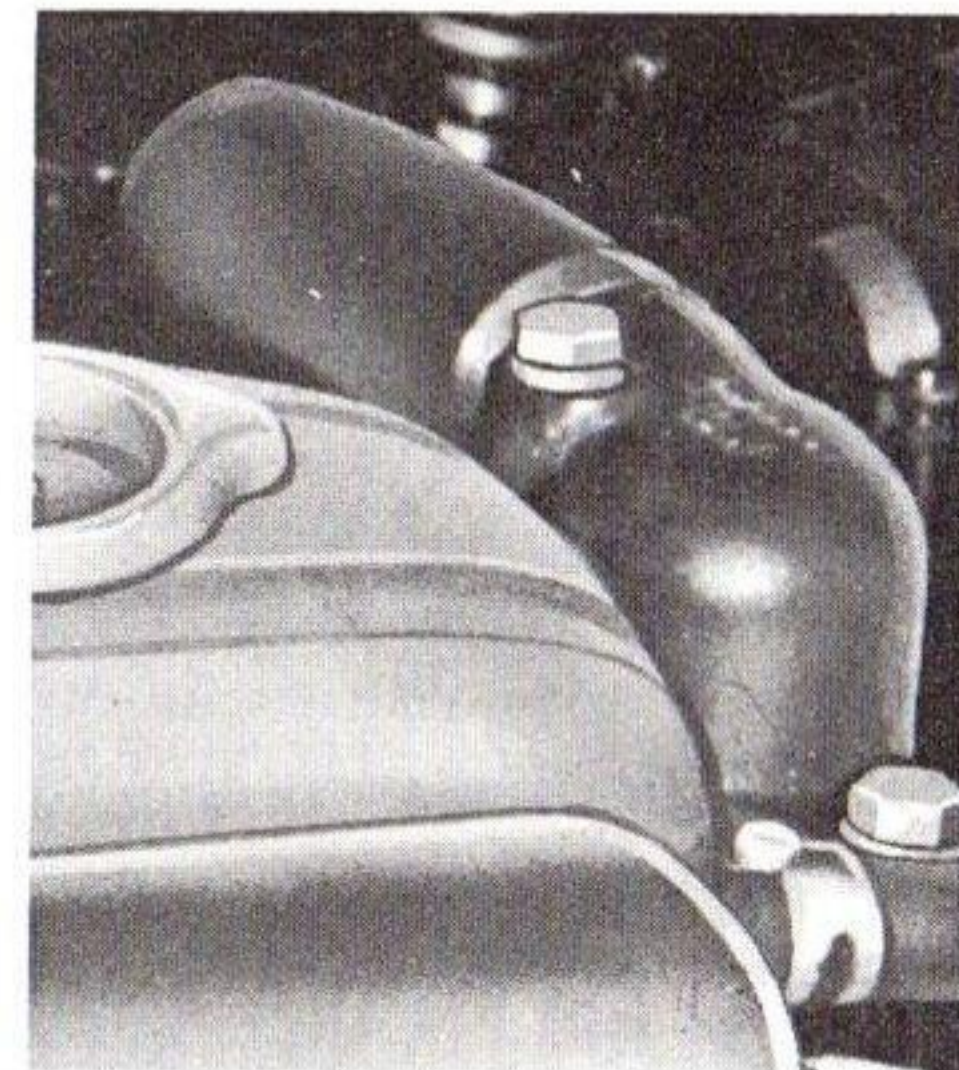

Fig. 72—Thermostat Housing
2. Remove the two cap screws that attach the water outlet to the thermostat housing (fig. 72) and lift water outlet (with hose attached), gasket, and thermostat from housing.